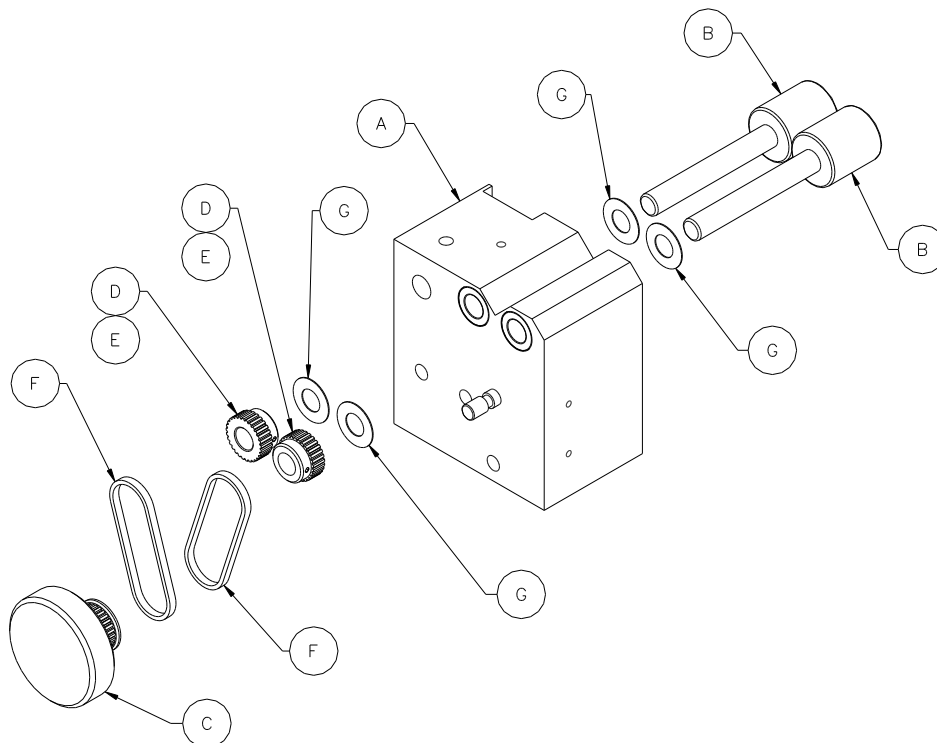

Figure 15. Main Roller / Main Block Assembly
13.0 Main Roller Replacement – (See Figure 15)